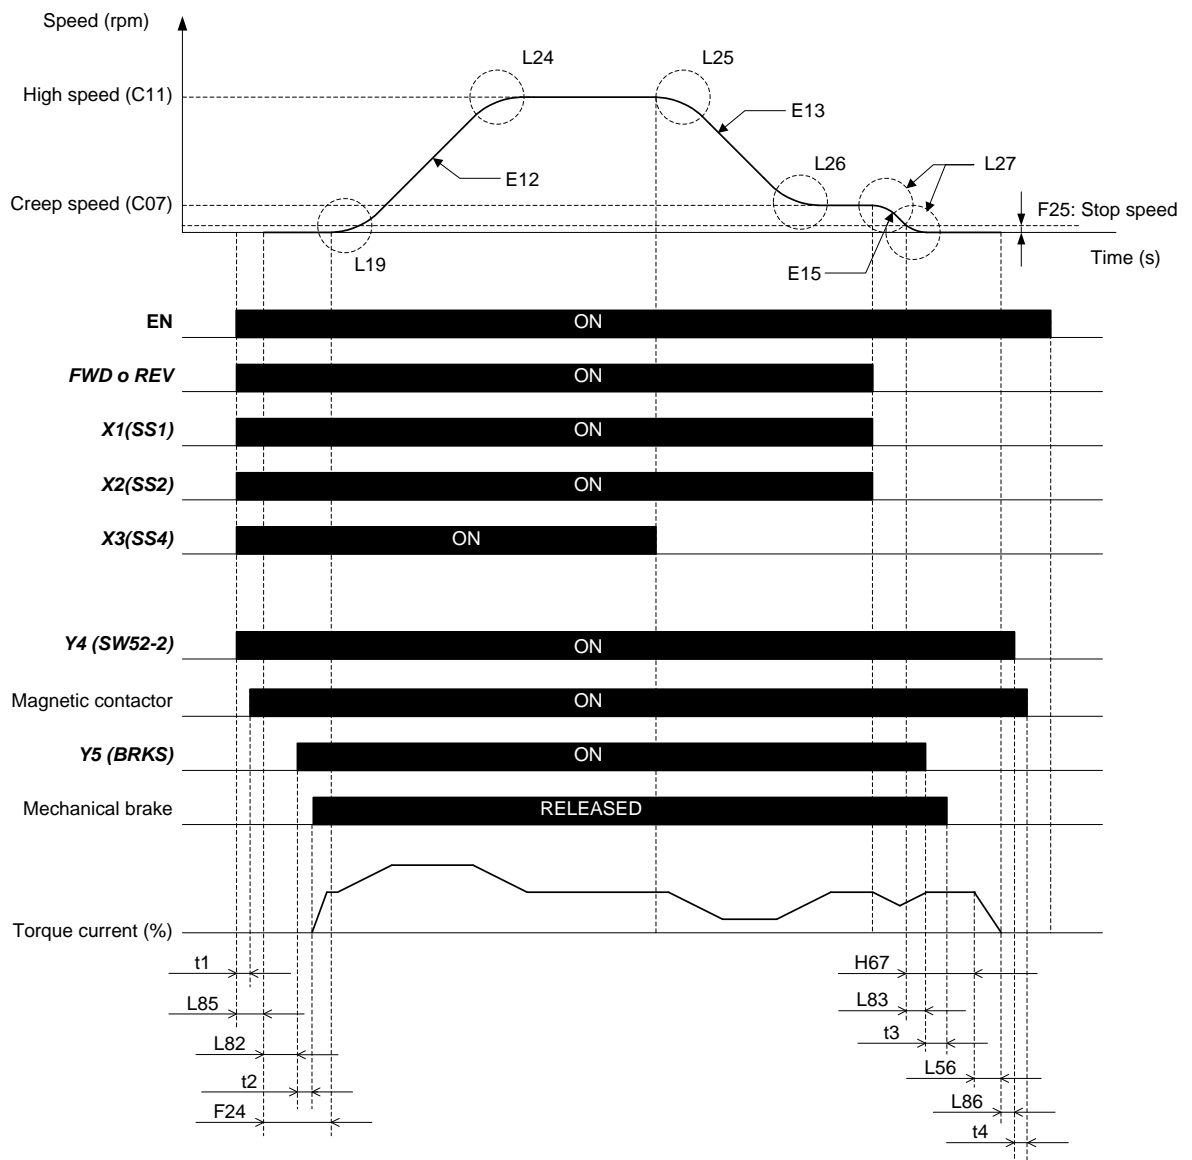

Figure 11.1: Closed loop application time and signals sequence diagram.
Figure 11.1 shows a complete time diagram and signals sequence in case of closed loop application. It shows a standard travel with a lift controlled by digital inputs with high and creep speed. In this case, induction motor and PMS motor are equivalent.
- Figure 11.1 is a travel example where brake and main contactor signals are controlled by the inverter. If these signals are controlled by the lift controller, timing might differ.
12.Signal time diagram for open loop (IM)